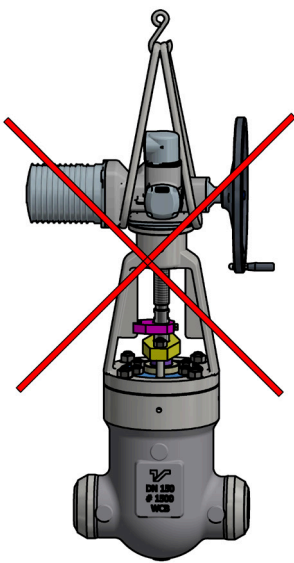

Figure A.16
- Do not use the lifting points located on the actuator (Figure A.16).